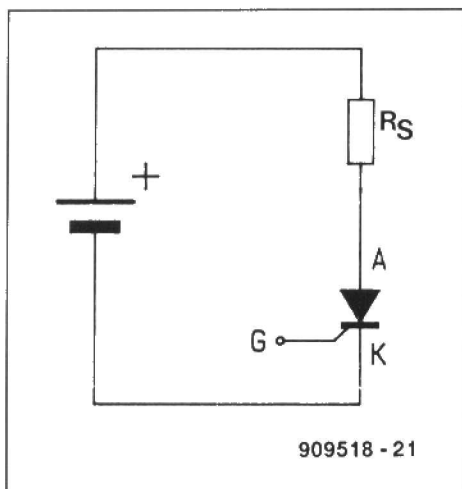

Fig. 12. Basic connection of a thyristor.
Figure 12 shows the circuit symbol of a thyristor. Thyristor is the original name of the solid-state equivalent of the thyatron valve, but is now more commonly called silicon-controlled rectifier (SCR). A version of the SCR for switching a.c. is the triac, which is discussed further on.
The anode-cathode (A-K) junction of a thyristor is normally blocked, so that series resistor R_S does not pass current (see Fig. 12). When a positive voltage, U_{GK} , of about 1 V is applied to the gate terminal (G), the gate-cathode junction becomes conductive, and passes a current. This gate current is usually denoted by the term triggering current, I_{GT} , and is not dependent on the anode voltage or the anode currents. When I_{GT} exceeds a certain value (the trigger threshold) the thyristor is triggered ('fired'), and the anode-cathode junction conducts. Current will keep flowing through this junction even when the gate current is removed. The current is interrupted, however, when it drops below a certain level, the holding current, I_{H1} .